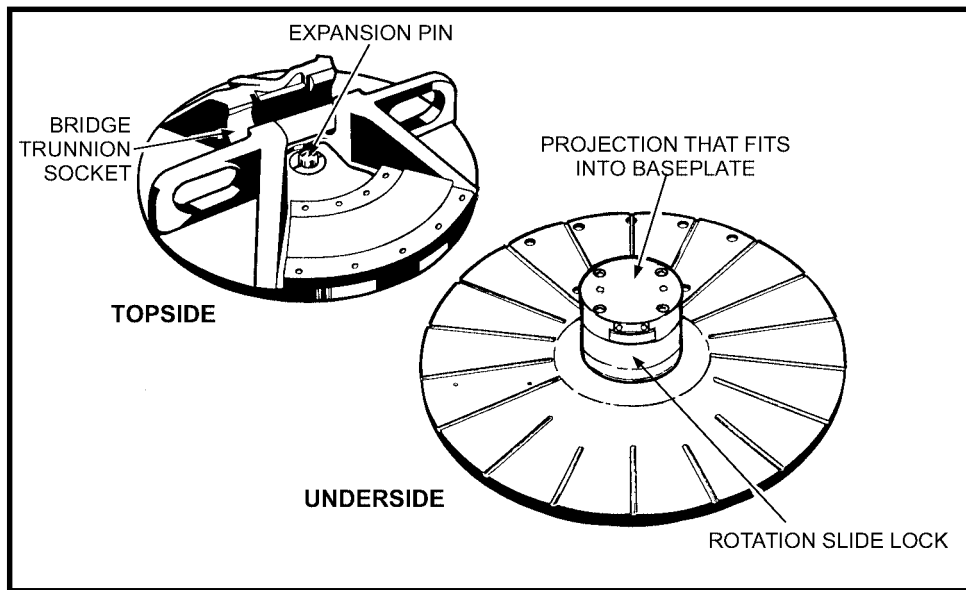

Figure 6-6. Rotator assembly.
c. **Rotator Assembly.** The rotator assembly (Figure 6-6, page 6-8) is about 20 inches (50.8 centimeters) in diameter. The bridge trunnion sockets are on the upper side of the rotator assembly. A projection on the underside fits into a recess in the baseplate assembly and contains the rotator slide lock. The rotator slide lock is actuated by the insertion of the bridge trunnions into their sockets, which depresses the expansion pin and securely locks the rotator and baseplate assemblies together. This projection also forms the pivot around which the rotator assembly rotates on the baseplate assembly.